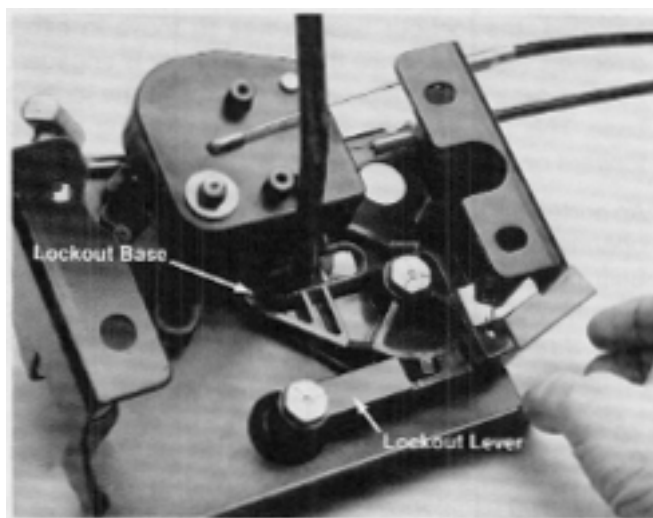

Figure 25
1. Check for proper operation of the shift lockout mechanism. With the lock out lever in the position shown in Figure 25, the lock out base should prevent the shift lever from forward and backward movement.